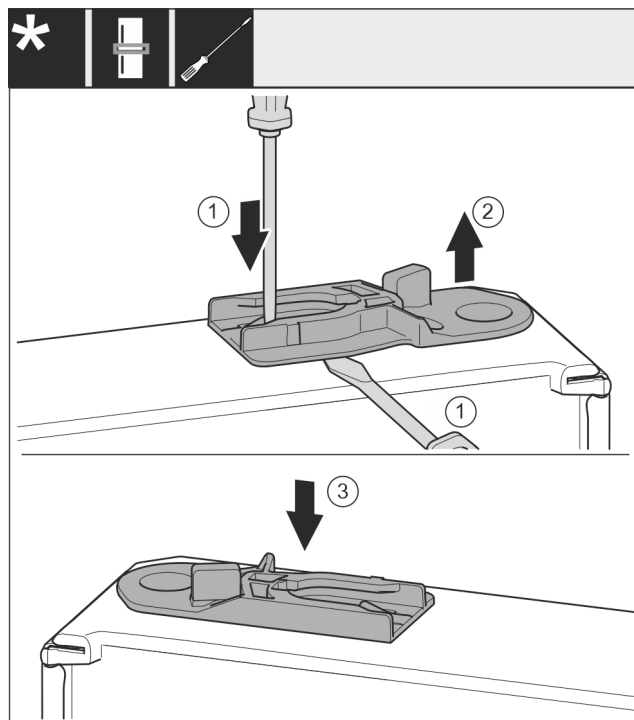

Fig. 41
► Pull out the guide bushing: Press the tab Fig. 41 (1) with the slotted screwdriver while running the slotted screwdriver under the guide bushing Fig. 41 (2) at the same time.
► Insert the guide bushing Fig. 41 (3) supplied in the scope of delivery on the other side of the housing.